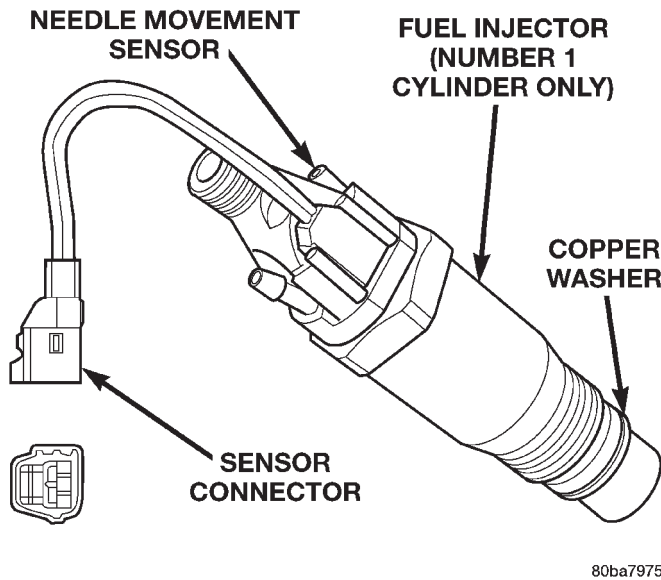

Fig. 12 Fuel Injector Sensor
(11) Verify that the electrical pigtail connector (sensor connector) (Fig. 12) for the fuel injector sensor is firmly connected to the engine wiring harness. Inspect the connector for corrosion or damaged wires. This sensor is used on the #1 cylinder injector only.